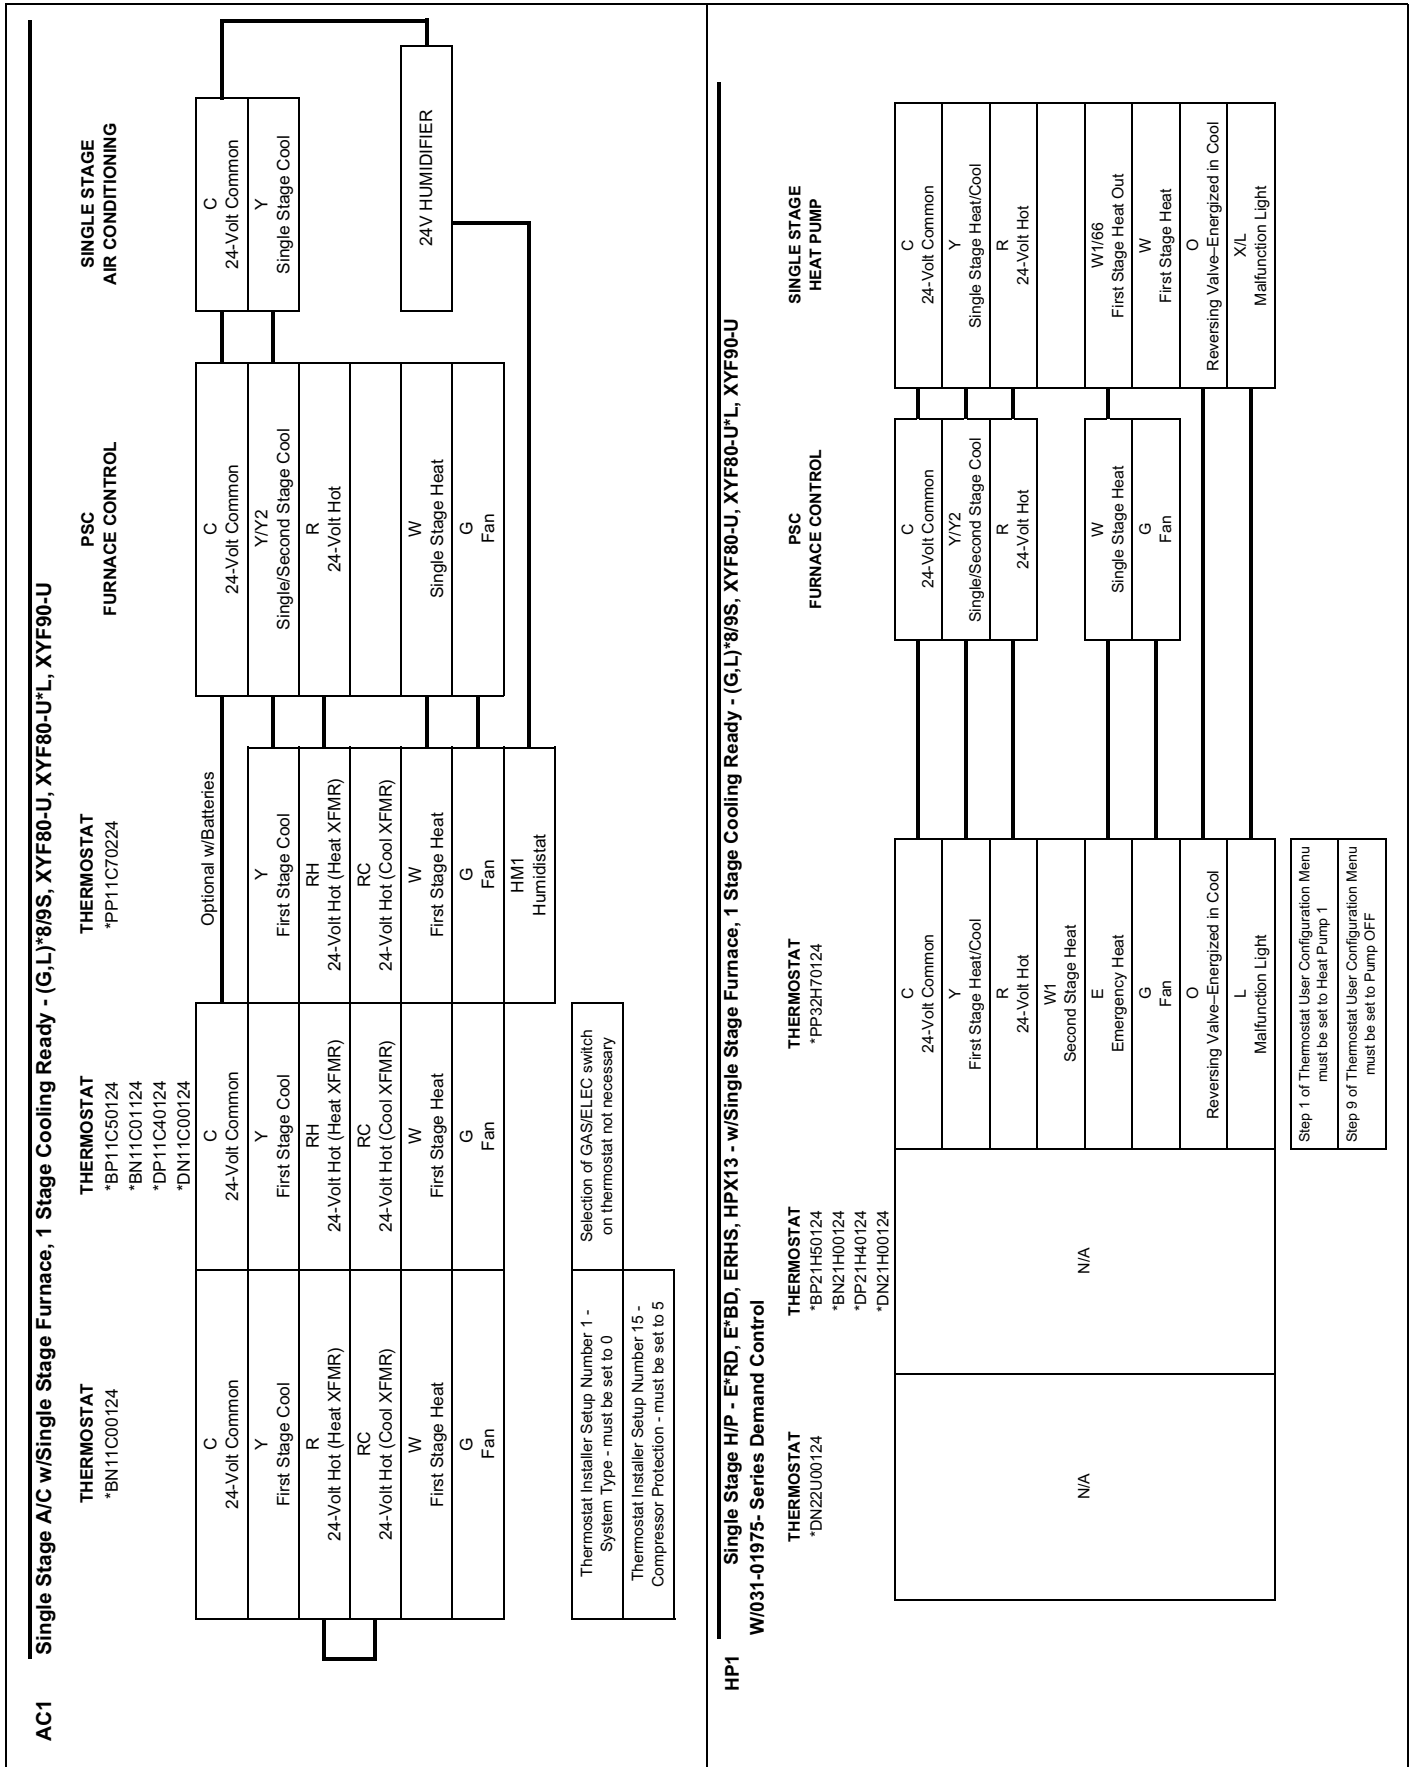

FIGURE 10: Thermostat Chart
2. Remove the screws retaining the wiring box cover. Route the power wiring through the opening in the unit into the junction box with a conduit connector or other proper connection. In the junction box there will be three wires, a Black Wire, a White Wire and a Green Wire. Connect the power supply as shown on the unit-wiring label on the inside of the blower compartment door or the wiring schematic in this section. The black furnace lead must be connected to the L1 (hot) wire from the power supply. The white furnace lead must be connected to neutral. Connect the green furnace lead (equipment ground) to the power supply ground. An alternate wiring method is to use a field provided 2" (5.1 cm) x 4" (10.2 cm) box and cover on the outside of the furnace. Route the furnace leads into the box using a protective bushing where the wires pass through the furnace panel. After making the wiring connections replace the wiring box cover and screws. Refer to Figure 10.
3. The furnace's control system requires correct polarity of the power supply and a proper ground connection. Refer to Figure 10.